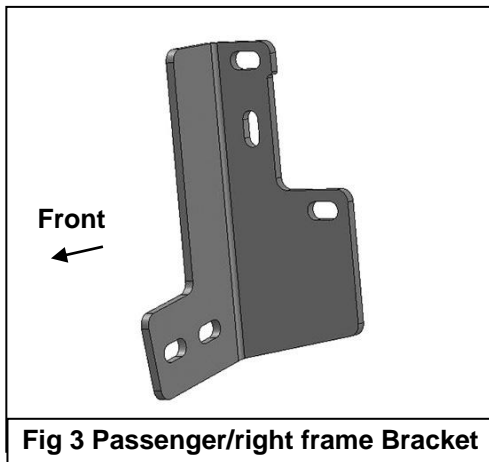
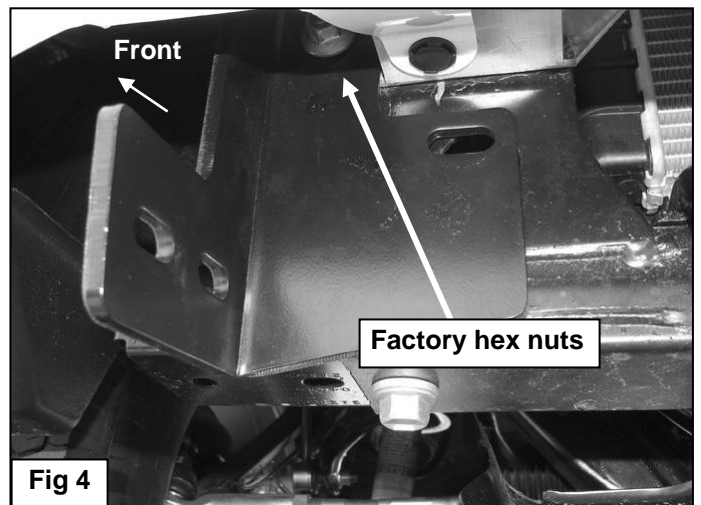

Fig 3 Passenger/right frame Bracket
Fig 4
3. Select the passenger side Frame Bracket, **(Figure 3)**. Slide the Bracket over the (2) studs. Secure the Bracket to the studs with the factory hex nuts, **(Figures 4 & 9)**. Leave hardware loose.